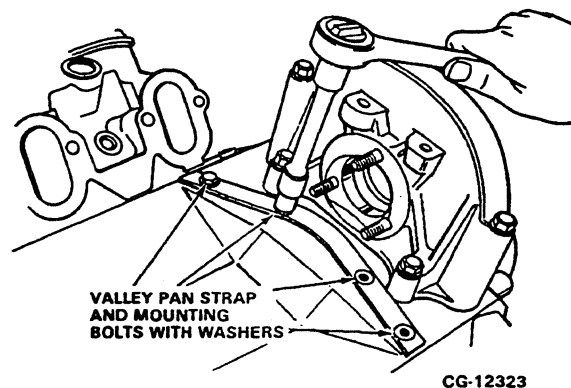

Figure 2.10. Remove Valley Pan Strap
4. Remove the four valley pan mounting bolts and washers, then remove the valley pan strap, Figure 2.10.